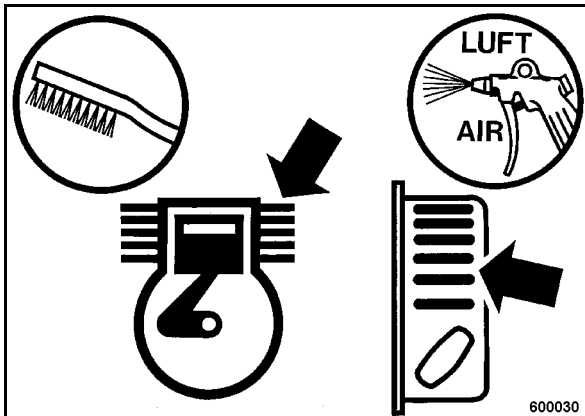

Fig. 40
- Loosen dried on dirt with a suitable brush (Fig. 40) from all cooling fins and cooling air intake openings and blow it off with compressed air.